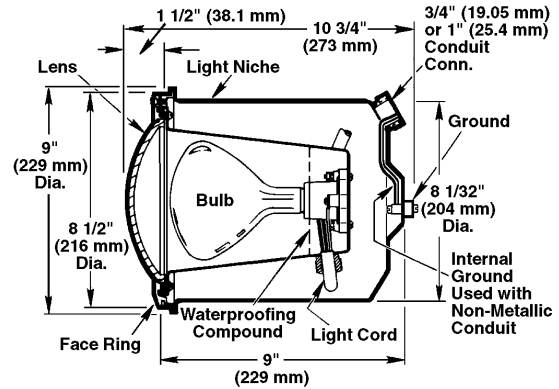

Figure 2: Niche Dimensions
- The light niche is formed stainless steel with an I.P.S. stainless steel conduit connection (see Figures 2 and 3) and a mounting ring. The mounting ring has a locking lug matching the bottom of the light face ring and at the top is provided with a tapped boss for a vandal proof lock screw.